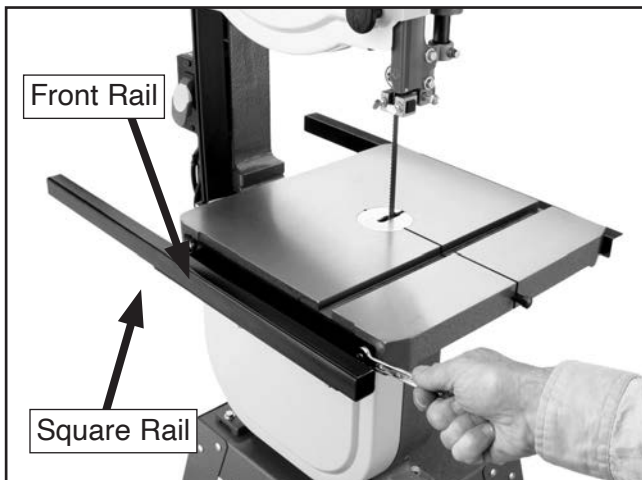

Figure 25. Installing front rail system.
1. Secure the rear rail against the rear of the table with the flat un-drilled surface facing up, using (2) M6-1 x 20 hex bolts, 6mm flat washers, and 6mm lock washers.
2. Attach front angled rail to front of table with (2) M6-1 x 20 hex bolts, 6mm flat washers, and 6mm lock washers (see **Figure 25**).
3. Attach the square rail (see **Figure 25**) to the front angled rail with the four M6-1 x 10 hex bolts, lock washers, and flat washers.